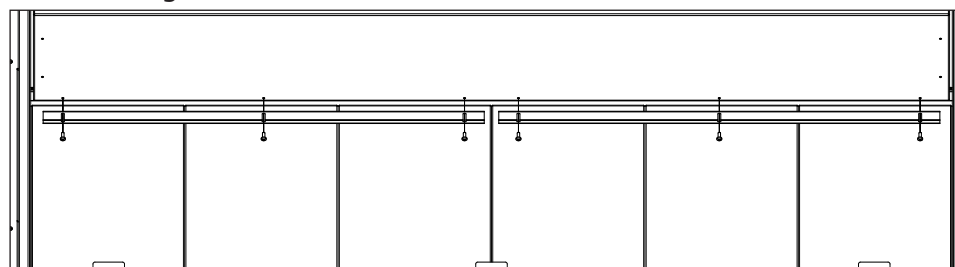

Figure 45: Rear Liner Retainer
Step 4. Remove the rear liner retainers using a T20 driver (Figure 45).